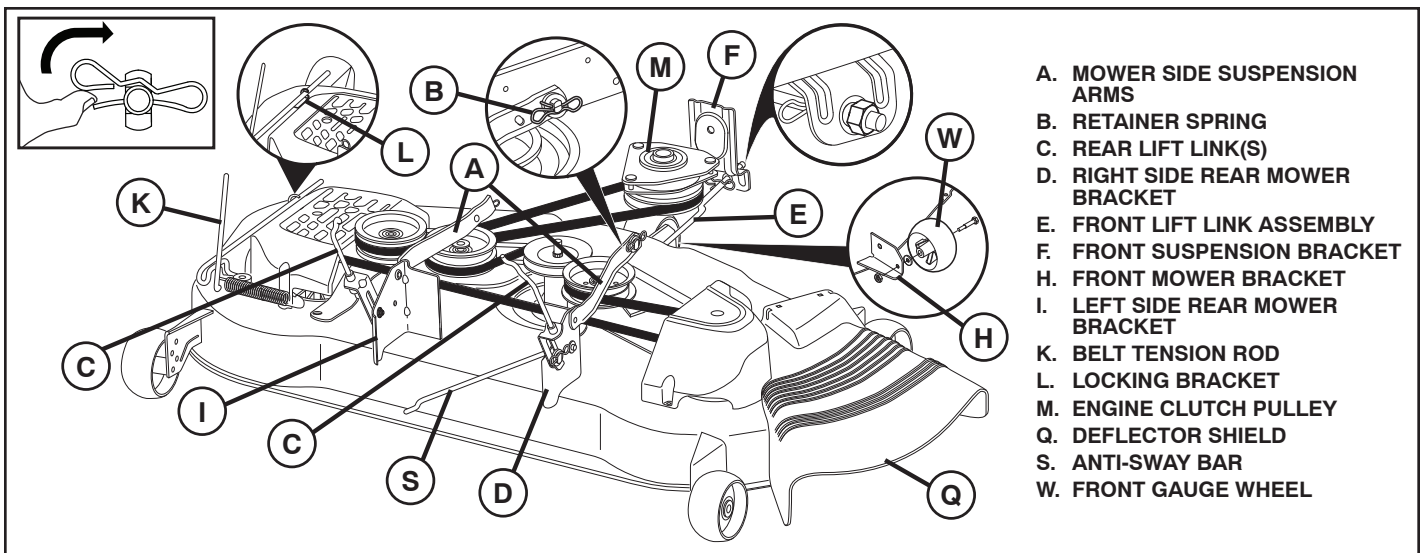

Fig. 5
9 INSTALL BELT ON ENGINE CLUTCH PULLEY (M) (See Fig. 5 & 11)
- Disengage belt tension rod (K) from locking bracket (L).
- Install belt onto engine clutch pulley (M).